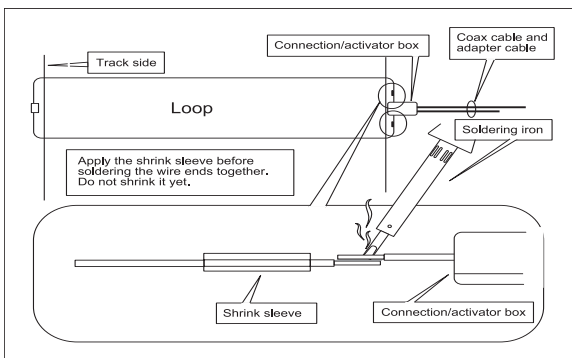

Figure 2.2 Solder the loop wire end
- b) When all wires are installed, put the heat shrink sleeve over a detection loop wire end. Then solder the loop wire end to the short wire end of the activator box. When soldering the wires together, the solder should flow through the entire connection and not only around it. Now put the shrinkage sleeve over soldered connection and hold it over a heat source to shrink the sleeve (see figure 2.2). Repeat this procedure for the second wire end of the detection loop.